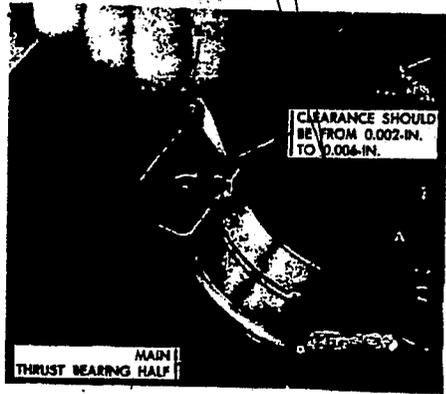

Fig 5-25. Checking main thrust bearing for end play.
Now let's clean the main bearings thoroughly and inspect each bearing half. Scored or chipped bearings must be replaced as well as excessively worn bearings. At this point, you may begin to eliminate crankshaft end play if it was found to be excessive during disassembly. This is done by replacing the main thrust bearings, which have flanged ends, (fig 5-25). The bearing (A) should be placed in its position in the engine block or bearing cap, and the space between the flange and the block or cap measured with a feeler gage (B).